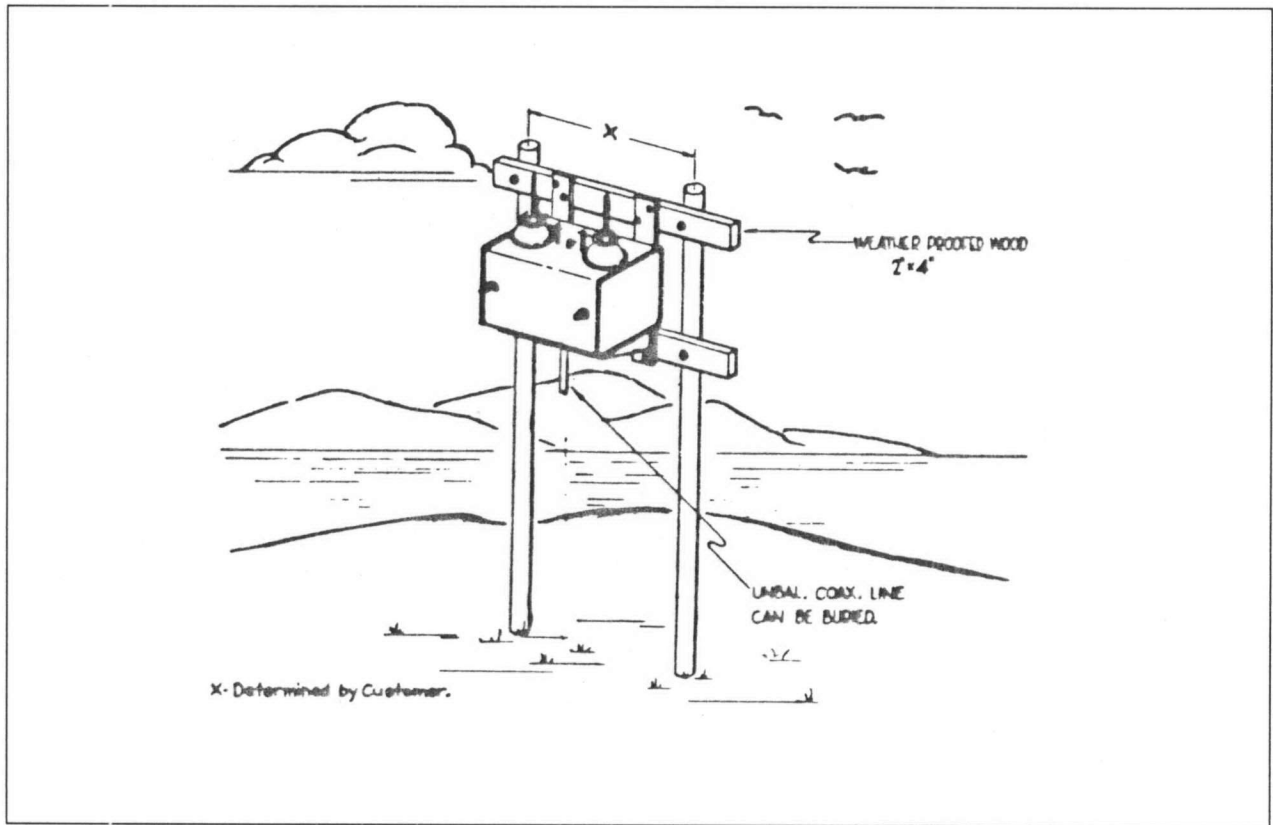

Figure 2.3 Recommended Pole Mounting
- Figure 2.3** **Recommended Pole Mounting**